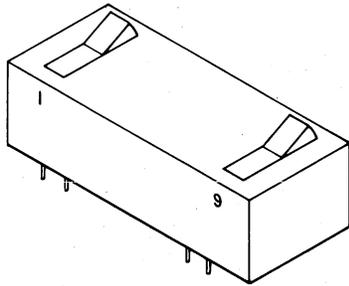
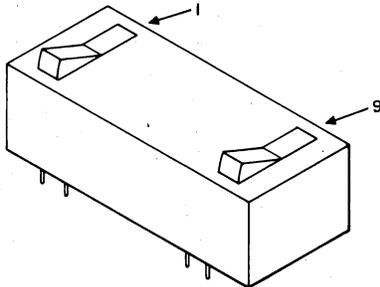

FIG. 11A
FIG. 11B
- 6.11** The Installation and Connections practice pictures option switch S3 in its intended position and tabularly presents various settings for this switch. For a limited production run, a number of DS 202S were manufactured with switch S3 in the opposite direction from that intended. Figure 11A shows the AMP rocker switch in its normal configuration when viewed from the faceplate end of DS 202S. Operating the rocker toward the number gives a contact closure. Figure 11B shows a substitute AMP rocker switch that mechanically operates in reverse of the normally specified switch (Fig. 11A). In Fig. 11B operating the rocker toward the number still gives a contact closure; however, the switch is being operated in reverse of Fig. 11A. Optioning a 202S with this reversed switch is confusing and leads to field errors. Comparing two data sets 202S in order to see if they are optioned the same leads to the same confusion.